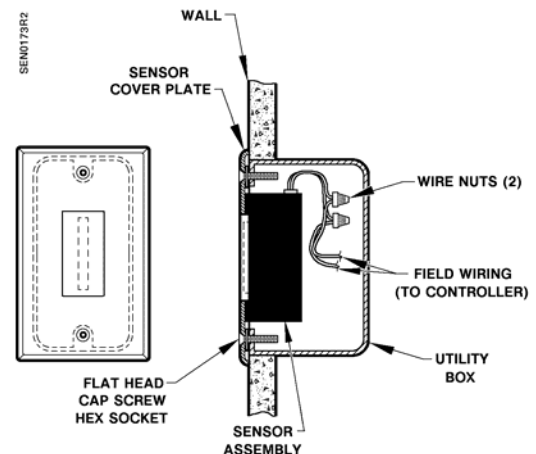

Figure 1. Installing the Sensor.
1. Connect the field wires to the sensor lead wires using the wire nuts provided. See Figure 1.